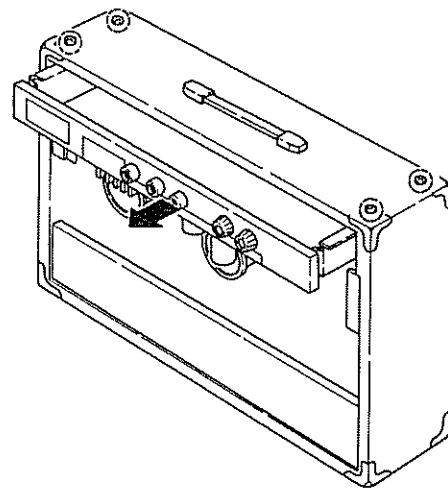

Figure 3
1. Remove the 4 screws securing the amp unit to the cabinet, as shown in Figure 3.
4. To remove the amp unit from the cabinet, pull it forward as shown in Figure 3.